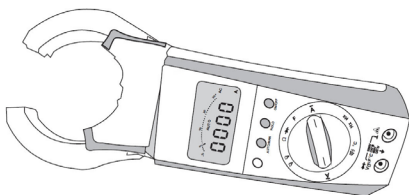

Fig. 5
One of the two ranges can be selected manually with AUTO/MAN key. To measure the current through a cable, push the trigger (21) to open the jaws and clamp the jaws around the cable as shown in figures 5 and 6.